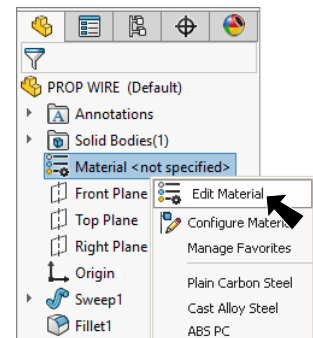

Fig. 15
- Step 1. **Right click** **Material**  in the Feature Manager and click **Edit Material**, **Fig. 15**.